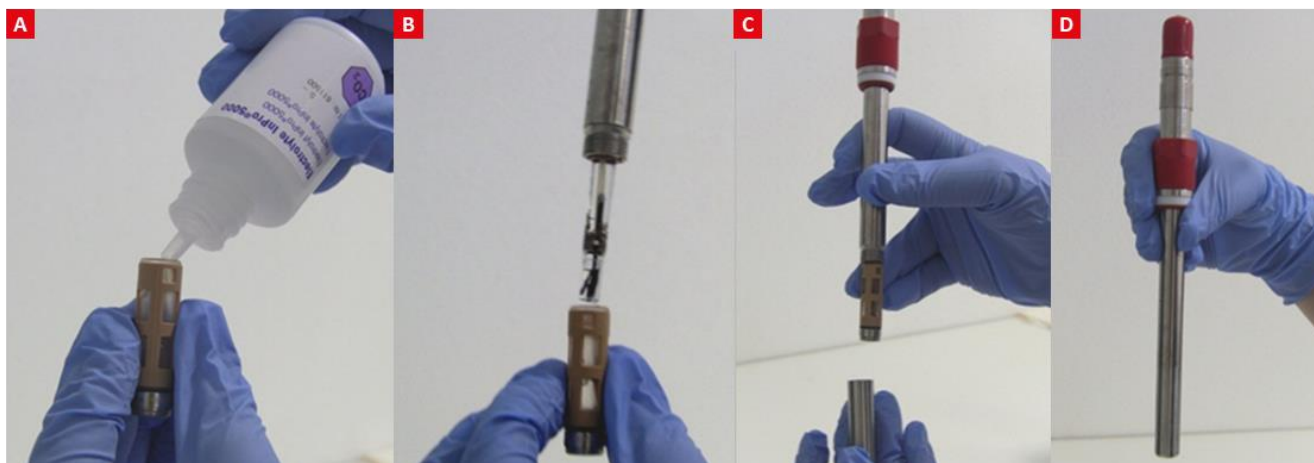

Fig. 22 Assembly of the CO₂ electrode.
- Assemble the sensor according to the manual provided by the sensor manufacturer. Individual steps of the assembly are schematically shown in Fig. 22.